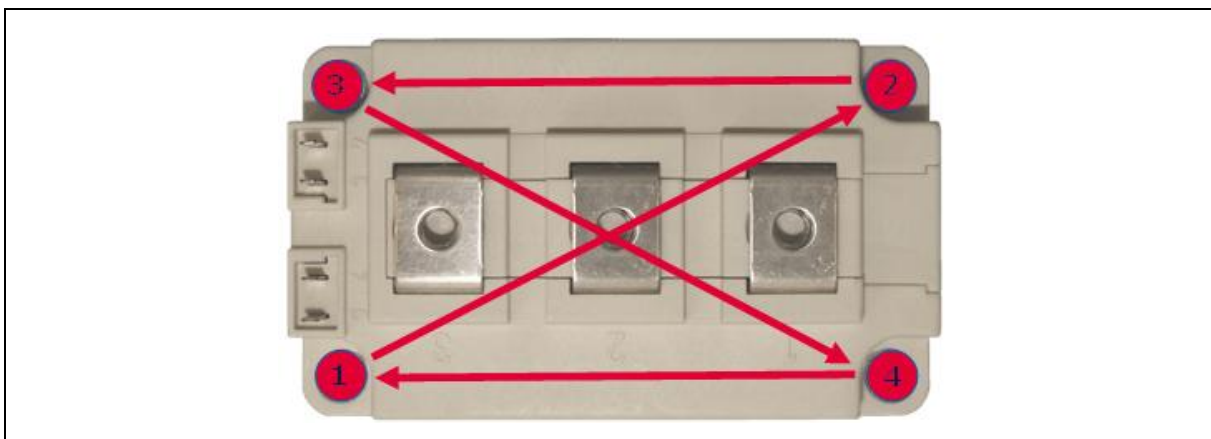

Fig. 10: Tightening sequence when mounting the module
e.g. bolt No. 1 - 2 - 3 - 4 (see Figure 10)